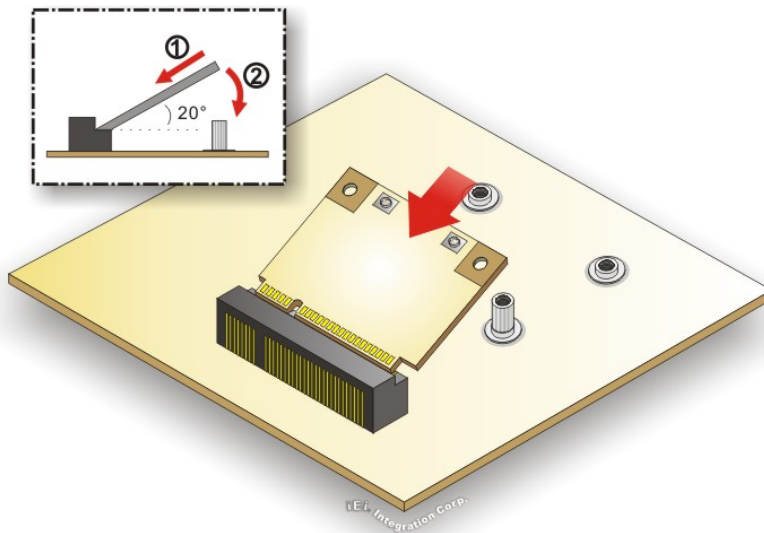

Figure 3-20: Inserting the WLAN Module
Step 6: Line up the notch on the WLAN module with the notch on the slot. Slide the WLAN module into the slot at an angle of about 20° (**Figure 3-20**).